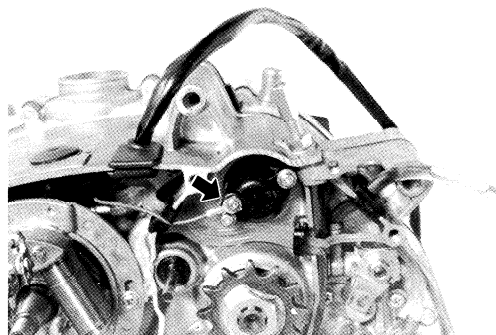

Fig. 5-4-4
4. Loosen the neutral indicator switch terminal screw with a cross head screw driver and then separate the **neutral switch wire** (blue) from the switch. (Fig. 5-4-4)